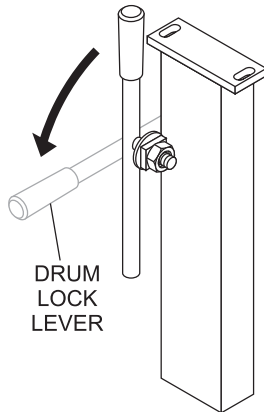

Figure 22. Drum Lock Lever
1. Release drum lock lever by pushing lever into **vertical** position (Figure 22).